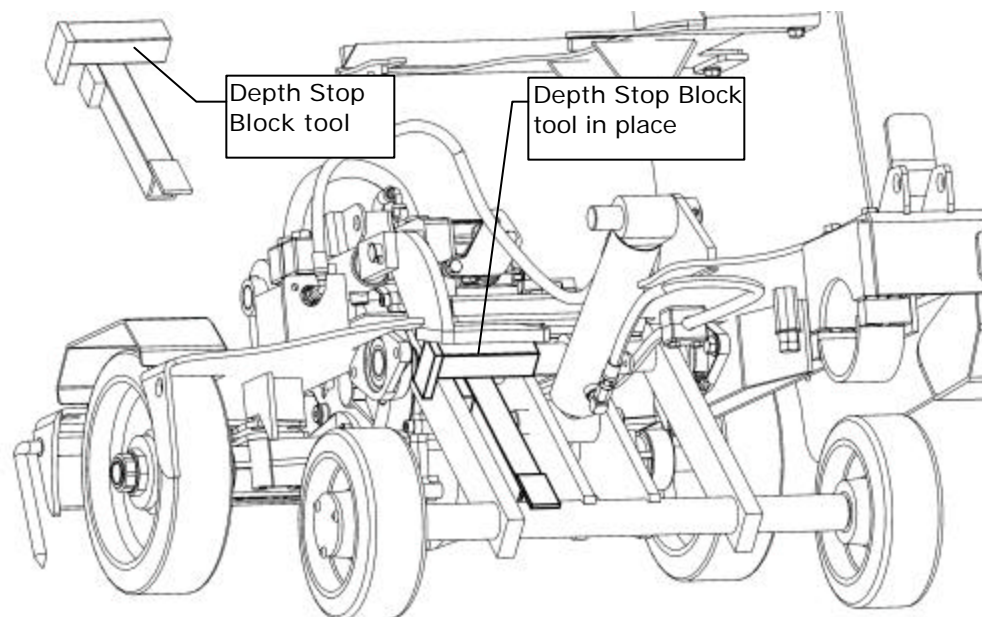

Fig. 44 — Bleeding the Depth Stop Cylinder
2. Loosen and tighten the Alignment Jackscrew nuts to move the Transaxle — and thus the wheels — in the appropriate direction to achieve the desired alignment distance (see Fig.44).